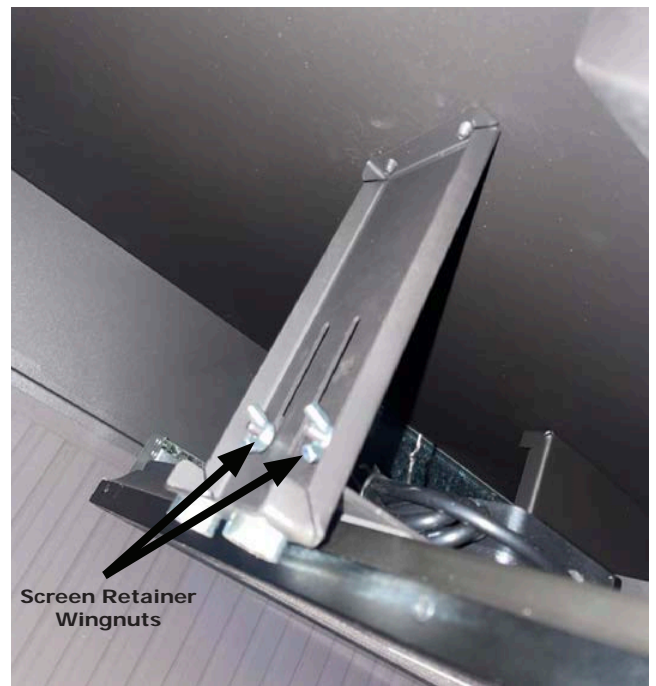

Figure 27: Screen Retainer
- a. Loosen the wingnuts shown in Figure 27.